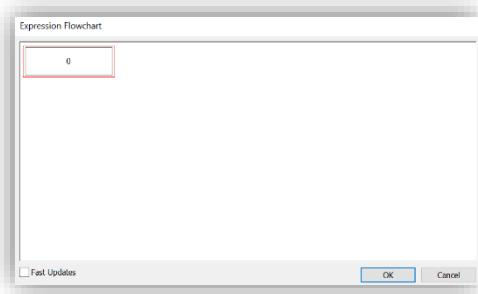

Figure 41. Flowchart dialog box to animate colour of pump.
- Right click on *pump symbol*>select *Animations*>Under *PolyFill* select *Fillcolor*> Select *Flowchart* button on left hand side. Figure 41 shows dialog box that opens.